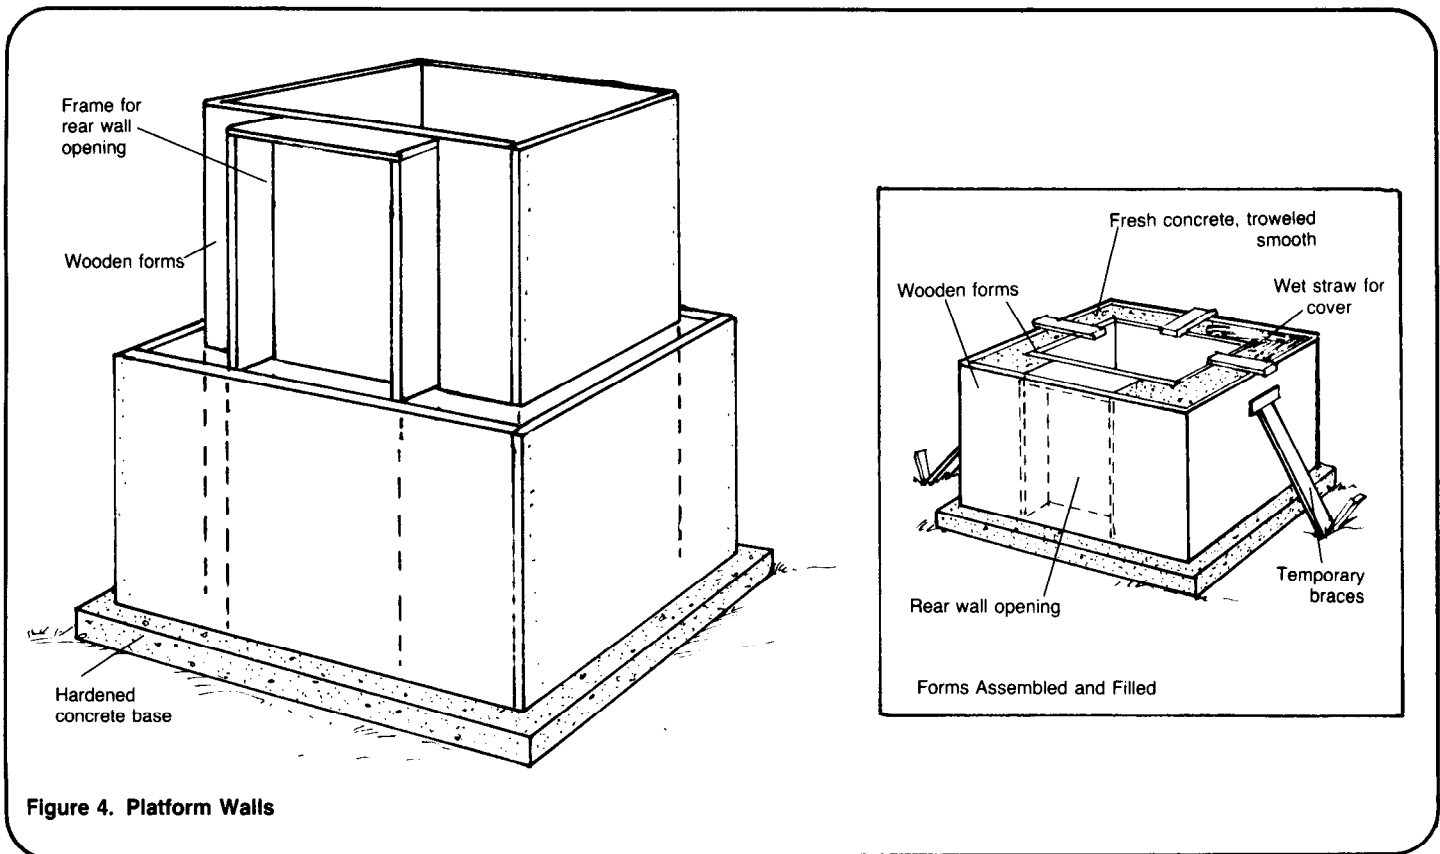

Figure 4. Platform Walls
6. Remove the cover material and forms from the base. Build forms for the platform walls. Make an opening in the rear wall for access to the bucket. Secure the reinforcing material in the forms. Brace the forms as shown in Figure 4 to be certain that they hold together when the concrete is poured.